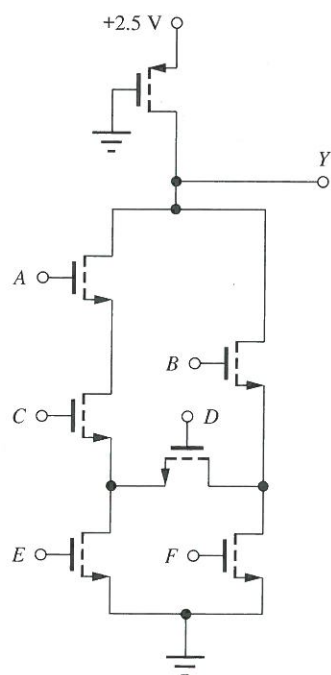

Figure P6.111
- 6.111. (a) What is the logic function that is implemented by the gate in Fig. P6.111? (b) What are the W/L ratios for the transistors if the gate is to dissipate three times as much power as the reference inverter design of Fig. 6.29(d)?
- 6.112. (a) Redraw the circuit in Fig. P6.111 using a saturated load transistor. (b) What is the logic function of the new circuit? (c) What are the W/L ratios of the transistors based on the reference inverter design in Fig. 6.29(b)?